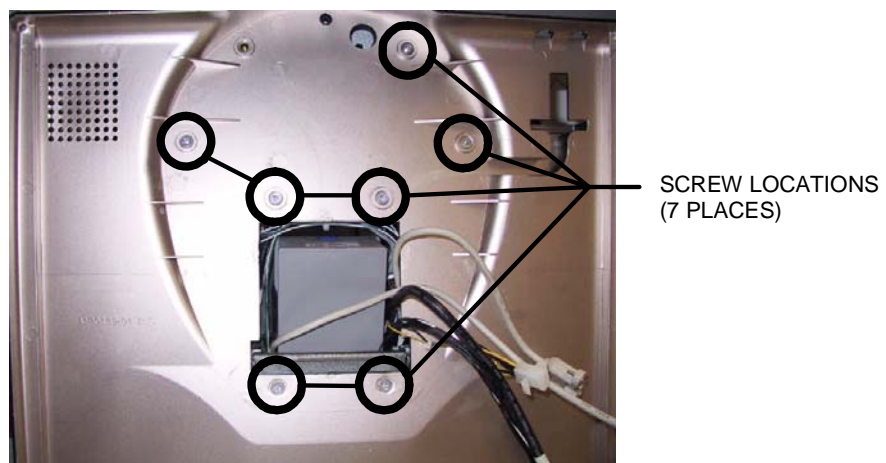

FIGURE 9 - OPEN MONITOR ASSEMBLY
11. Carefully remove the seven remaining screws that secure the monitor assembly to the unit (see Figure 9), then place the monitor assembly safely out of the way.
35. Route the four monitor cables and the wireless adapter cable connector through the hole on the rear of the monitor assembly, hold the assembly and fasten it in place by replacing the seven screws that secure it to the system. See Figure 9 for screw positions.